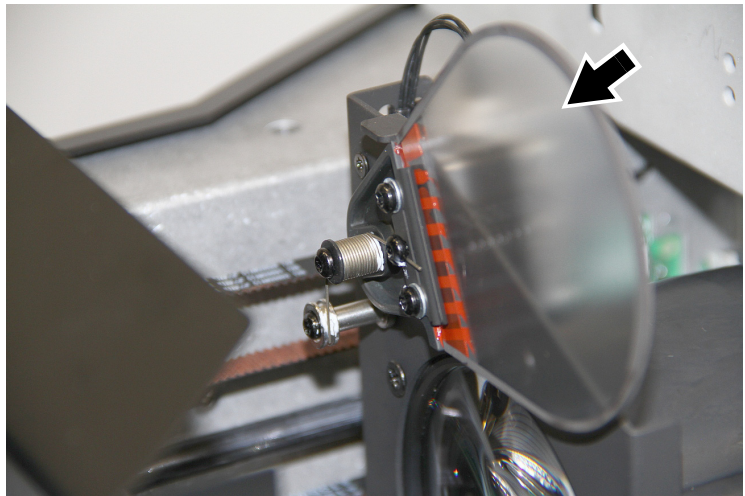

Figure 26: Frost filter
3. Move the zoom car towards the front of the head to give you easier access to the frost filter (arrowed in Figure 26). If you let the head sink so that it points downwards, gravity will hold the zoom car away from the filter.